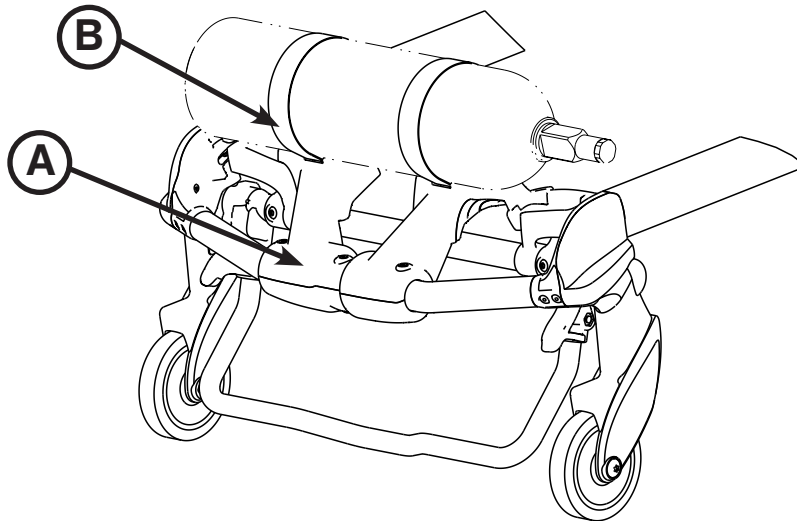

Figure 76: Retractable Head Section Oxygen Bottle Holder
1. Center the oxygen bottle on the cradled surface of item (A) as shown in Figure 76.
2. Tighten both straps (B) around the oxygen bottle.